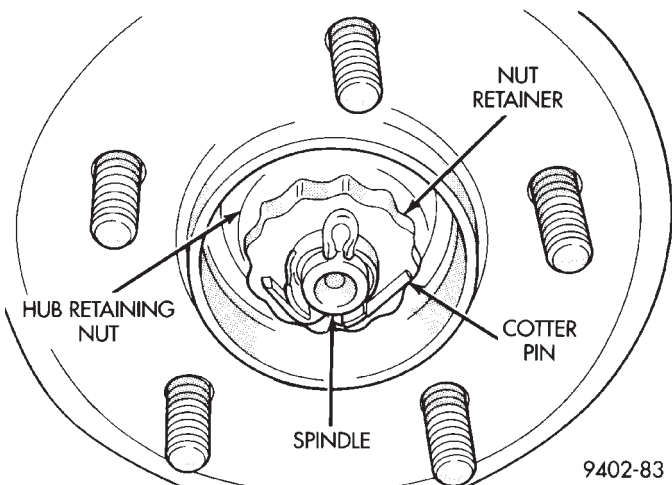

Fig. 119 Hub And Bearing Retaining Nut
(4) Remove the cotter pin, wave washer, nut retainer, and the nut and washer attaching the hub/bearing assembly to the spindle (Fig. 119).
(7) Install both lower rear door opening sill moldings.
(8) Install the rear seat lower cushion back in vehicle. Refer to group 23 Body in this service manual for required lower seat cushion, installation procedure.
(9) Install drivers side seat assembly back in vehicle. Refer to group 23 Body in this service manual for required lower seat cushion, installation procedure.
(10) Return the driver and passenger side seats back to their original positions.
(11) Install hub/bearing assembly on spindle.
(12) Install the washer and retaining nut for the hub/bearing assembly (Fig. 119). Tighten the retaining nut to a torque of 168 N·m (124 ft. lbs.).
(13) Install the wave washer, nut retainer and cotter pin on rear spindle (Fig. 119).
(14) Install hub/bearing dust cap.
(15) Install the brake drum, and the wheel and tire assembly.
(16) When repairs are complete, adjust rear brakes before adjusting parking brake. See parking brake adjustment procedure in this section of the service manual for complete parking brake adjustment procedure.